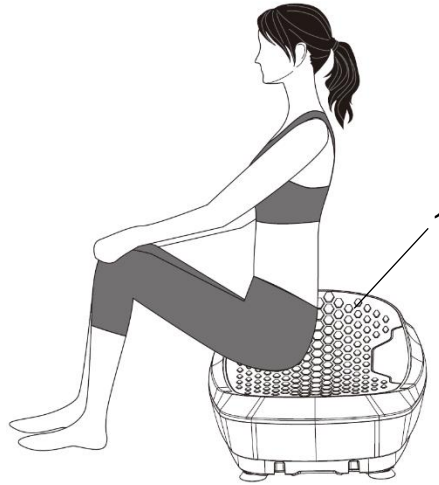

Fig. 2
1. Sit on the **Stepping Rubber (No. 1)** with your back straight and put your hands on your knees. This exercise aims to relax the hips and buttocks. (Fig. 2)